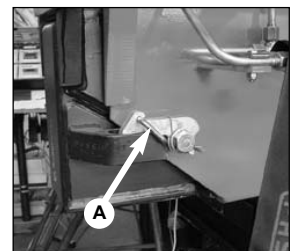

fig. 10
- Disengage the locking devices of the outrigger supports by putting the levers **A** from the position of the fig. 10 to the one of the fig. 10a.
Keep hands clear of automatic stop device of the outrigger supports (Fig. 10).
- (!) **Always check that the outrigger supports, once in their rest position, are locked in their seat by the safety devices, so as to assure the impossibility of accidental movement. (Fig. 10).**
Keep hands clear of automatic stop device of the outrigger supports. (Fig. 10).
- (!) Always check that the outrigger supports, once in their rest position, are locked in their seat by the safety devices, so as to assure the impossibility of accidental movement. (Fig. 10).**